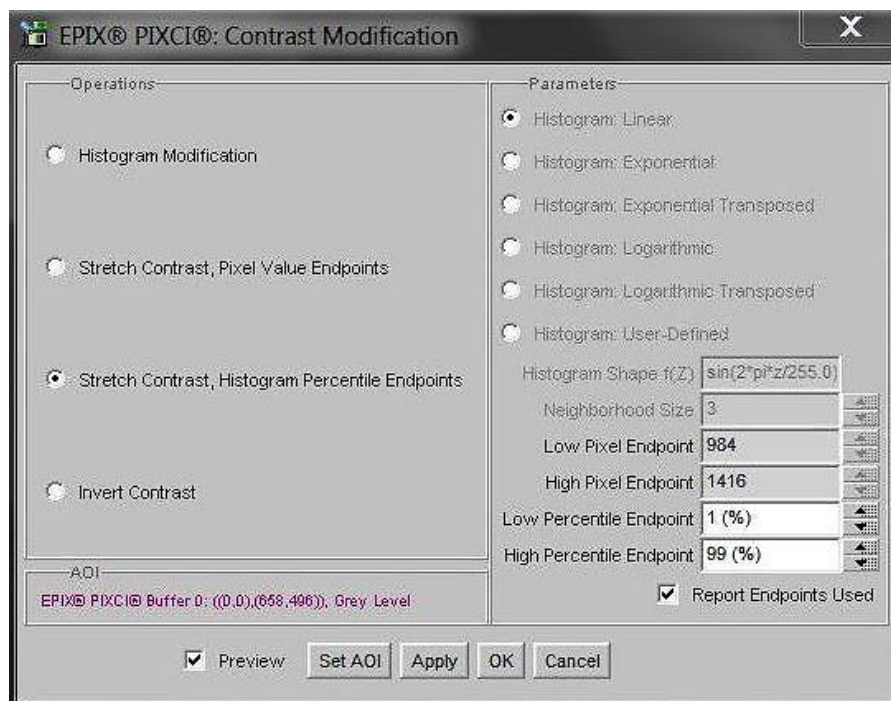

Figure 20: Stretch Contrast
2. Select “Stretch Contrast, Histogram Percentile Endpoints” and “Preview” Figure 20: Stretch Contrast.